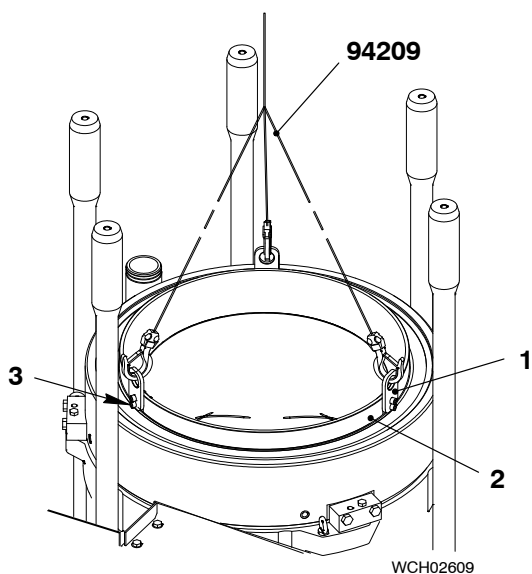

Fig. 13
- 29) Attach the engine room crane to the lifting tool (94209, Fig.13).
- 30) Attach the four plates (1) to the antipolishing ring (2) with the four screws (3).
- 31) Put the antipolishing ring (2) into the cylinder liner.